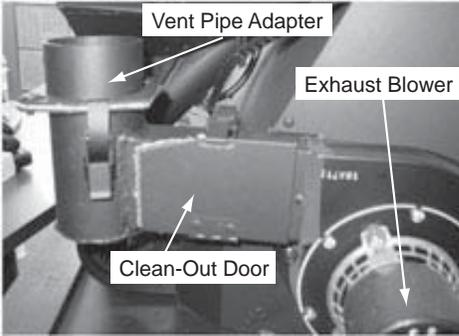

Figure 39.1
1. There are 2 exhaust exits at the back of the firebox on the left and right side. **Figure 39.1.**